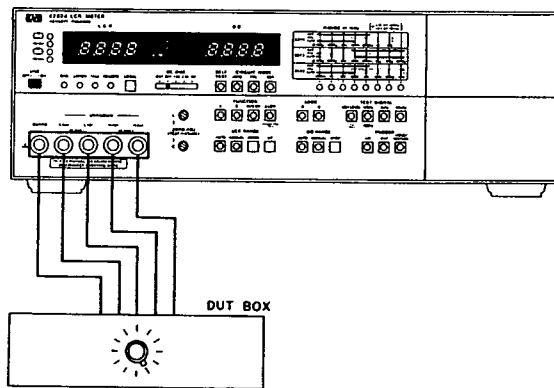

Figure 5-13. Offset Adjustment Setup.
1. Connect Test Leads (HP P/N: 16361-61605) between 4262A UNKNOWN terminals and 16362A DUT Box as shown in Figure 5-13. If 16362A is not available, attach 16061A Test Fixture to UNKNOWN terminals.